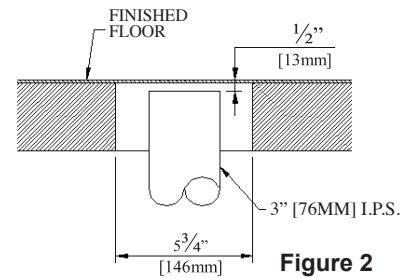

Figure 2
2. Prepare a 5-3/4" diameter opening with top of the 3" PVC drain pipe centered 1/2" below the finished floor surface (See Figure 2).